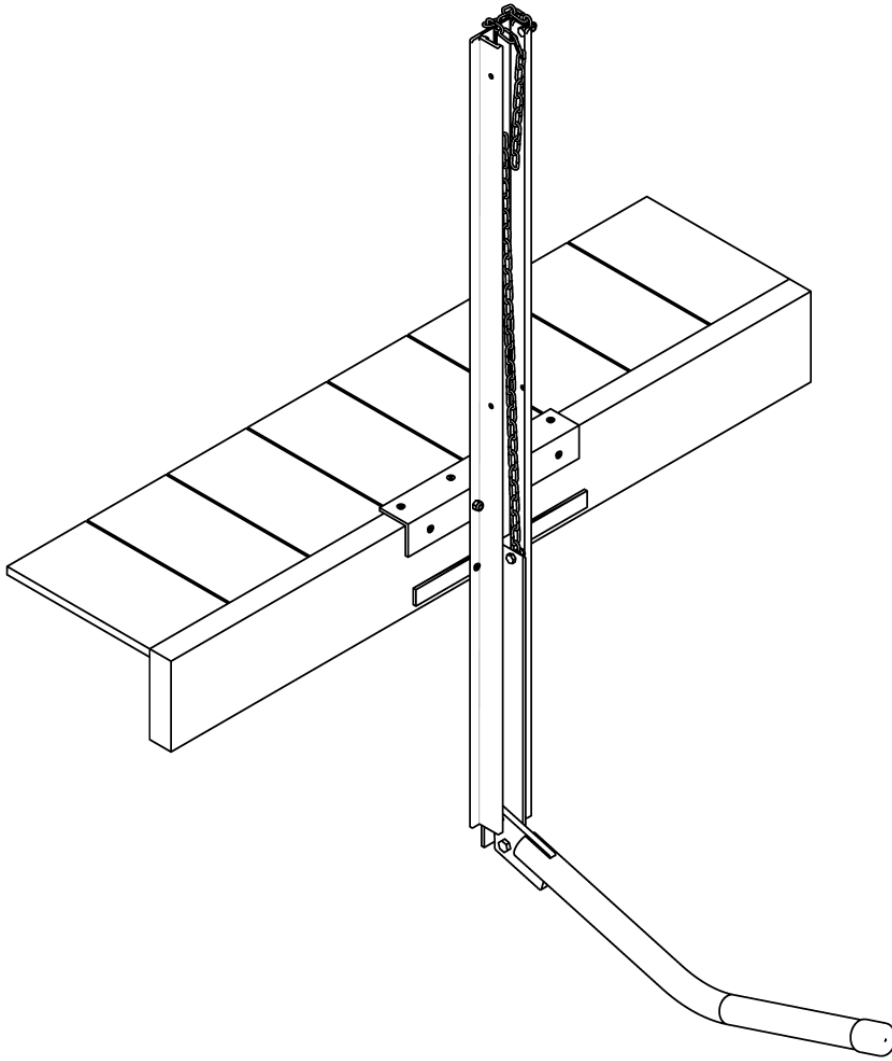

FIGURE 2
- Place the assembled KayaArm onto the edge of dock and fasten it to the dock using at least 2 deck screws (not provided) into the top surface of the angle (4). Fit the cedar shims into the approximately ¼" space between the back of the mast and the vertical surface of the dock (see Figure 2) at a location directly behind the lower holes in the mast flanges. HINT: Push the tapered shims simultaneously one from each side of the mast and one in front of the other, into the space behind the mast to a distance where this space is filled when the mast is vertical. Install 2 deck screws (not provided) into the lower flange holes. Optionally install more deck screws through additional holes provided in angle (4).
- The KayaArm mounted as above on a dock is functional to a water level about 30" below the top of the dock. For water levels below that you may attach the KayaArm to the side of a ladder with two bolts (not provided) through holes provided in the mast (1). See photo at <http://www.kayaarm.ca/manuals/KayaArmInstructions.pdf> and "ladder demo" at <http://www.kayaarm.ca/demovideos.php>